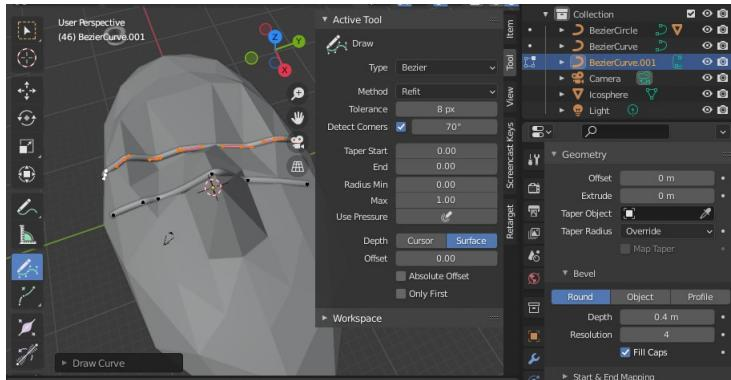

Figure 3-6 Setting Draw Curve onto a Surface
and Bevel (the right hand part of Figure 3-6) select **Round** for the Bevel geometry with Depth set to **0.4** and Fill Caps on.
3. Each time you draw will create a new length of wire so you don't need the original three control points and can delete them. Switch to Edit mode, delete all the existing vertices then select the Draw tool from the Toolbar. To make the lines draw onto the surface of the icosphere you need to open the Sidebar and in the Tool tab set the Depth to **Surface**. Draw by LMB and dragging the mouse as in Figure 3-6.